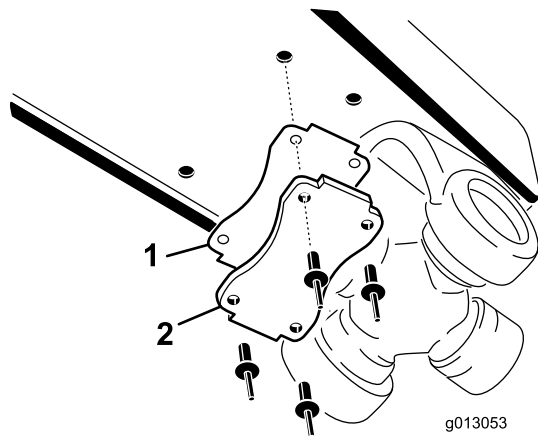

Figure 7
- .259 ± .002 inch diameter hole (4)
- Align the stop pad with the drilled holes in the lift arm (Figure 7).
3. Secure the stop and shim(s), if required, to the lift arm with (4) rivets (Figure 7).